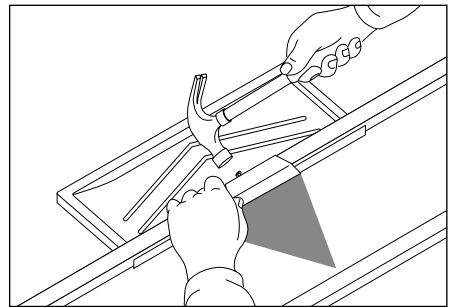

Fig 4
- 4 Secure soaker tray by folding V cut underlay over the batten and nail into top edge of tiling batten (Fig. 4).